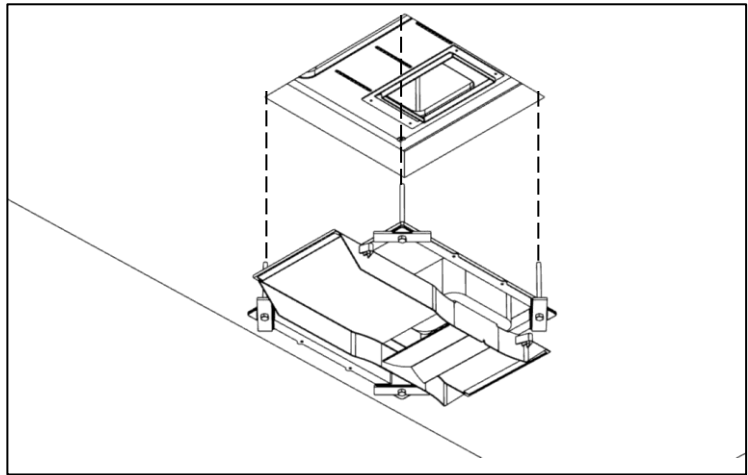

Fig 11: Raise the duct assembly up to the roof hole, ensuring the paper extension duct work forms a tight fit around the spigot underneath the unit
- Turn the assembly over and add the extension duct to the top of the assembly (Fig 11).
- Raise the brace assembly and slip the extension duct over the outside diameter of the spigot underneath the rooftop unit. (Fig 11 & 12).